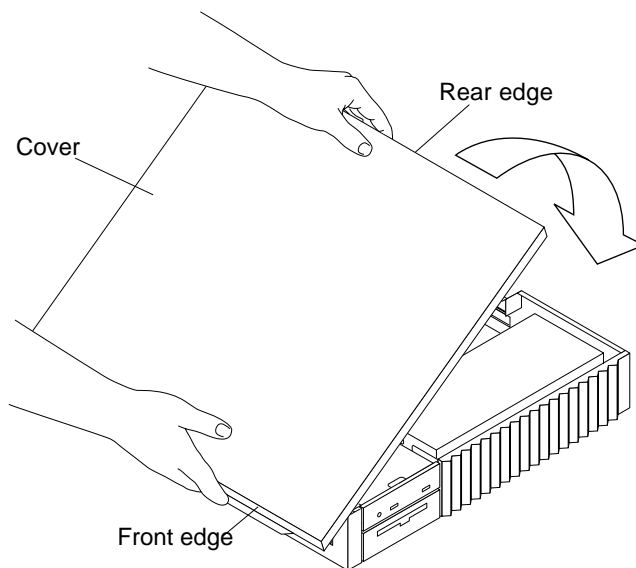

Figure 4-9 Replacing the SPARCstation 20 System Unit Top Cover
- 2. Hold the top cover at an angle as shown in Figure 4-9.**